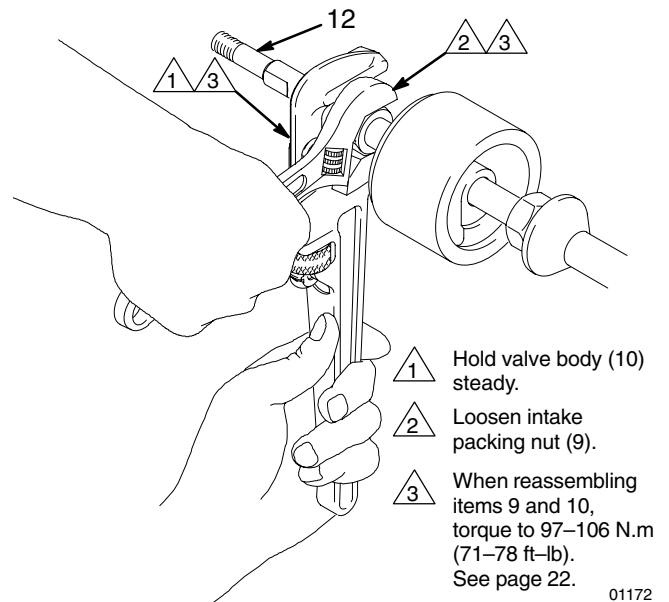

Fig. 8
9. Hold the valve body (10) steady with a wrench on the flats. Using an adjustable wrench, loosen the intake packing nut (9) to decrease tension on the priming piston rod (12). Now slide the intake valve assembly off the rod and set it aside. See Fig. 8.
9. Slide the assembled intake valve onto the priming piston rod (12), making certain that the packing nut (9) goes on the rod first. Push the valve assembly up the rod, stopping before it reaches the rod guide (18).
10. Hold the valve body (10) steady with a wrench while using an adjustable wrench to tighten the packing nut (9). See Fig. 8. Torque to 97–106 N.m (71–78 ft–lb). Use a hammer and brass rod to carefully drive the valve assembly further up the rod until it reaches the stop (VS).
11. Remove the displacement rod (1) from the vise. Place the cylinder (4) sideways in the vise with soft jaws.